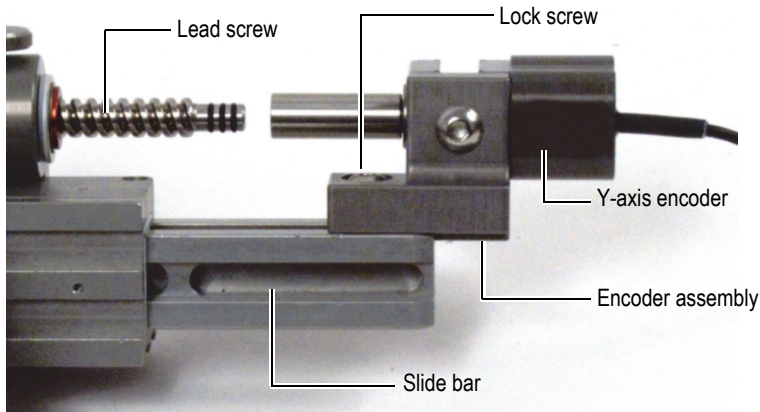

Figure 2-15 Installing or removing the y-axis encoder
2. Slide the y-axis encoder assembly out of the slide bar and off the lead screw. Expect some resistance because the coupling between the lead screw and the encoder is strong (see Figure 2-15 on page 48).
1. Slide the y-axis encoder assembly in the slide bar and onto the lead screw. Expect some resistance because the coupling between the lead screw and the encoder is strong (see Figure 2-15 on page 48).